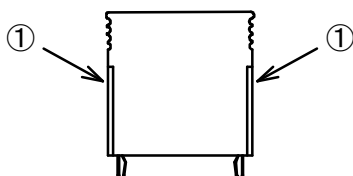

Fig.4 SPD main unit
3) Installation and removing method of the SPD main unit (Ref : Fig.4, 5, 6, 7 )
a) When installing the SPD main unit, the concave of the SPD main unit (①part) should be fitted in the convex of the fixing base(②part). Push the SPD main unit down to the fixing base securely until the end. If the SPD main unit is not put in the fixing base until the end, the SPD may be no functioned normally.
b) When removing the SPD main unit from the fixing base, pull out with vertical direction (④part) while tilting the SPD main unit towards to the direction of arrow head ③, holding the both grab side of the SPD main unit.